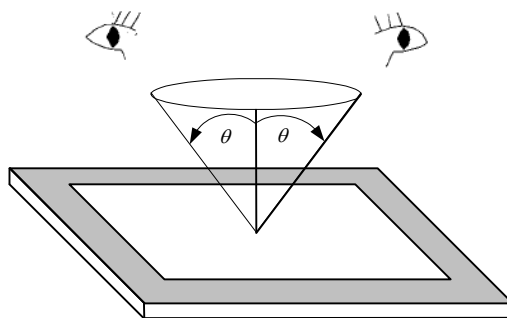

Fig. 11.1
- The viewing zone is defined with angle θ shown in Fig. 11.1 The inspection should be performed within 45° when display is shutdown. The inspection should be performed within 5° when display is power on.